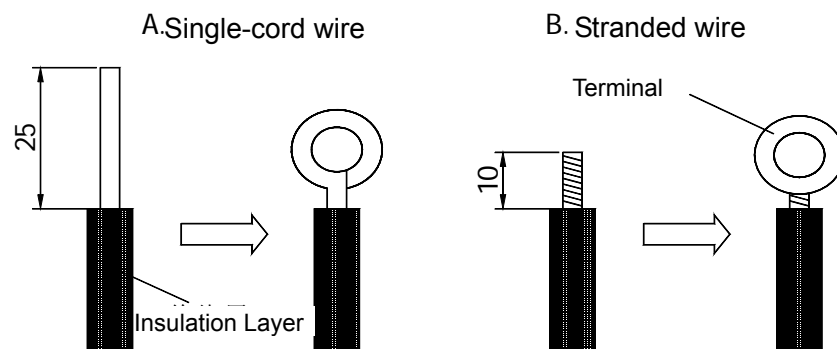

Fig. 3-5-4
3.5.3 Connection of Electric Wire to Terminal Board See Fig. 3-5-4.**1) Before installing the electrical equipment, please take care on the following:**